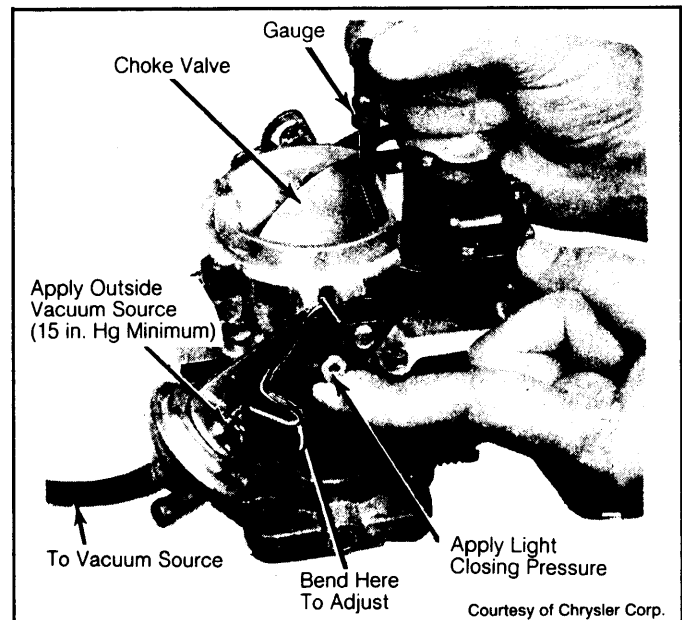

Fig. 7: Choke Vacuum Break Adjustment
1) On Jeep models, remove choke coil cover retaining screw. Rotate choke coil cover 90 degrees in "Rich" direction. Install and tighten 1 slot-type retaining screw. On all models, place fast idle speed screw on highest step of fast idle cam. See Fig. 7.